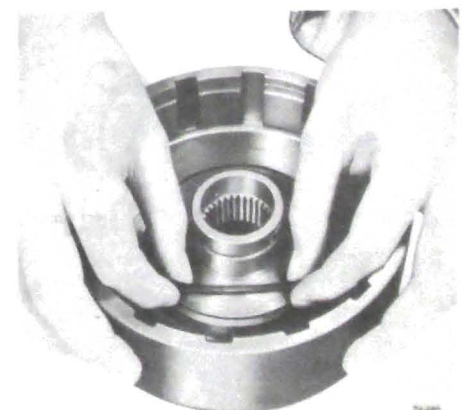

Figure 76-682
10. Remove center piston seal from direct clutch housing. See Figure 76-682.
3. Install a new center seal on clutch housing with lip of seal facing up. See Figure 76-682.